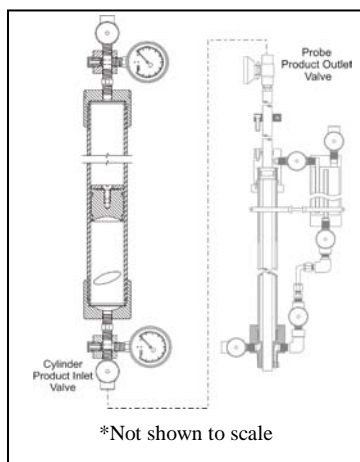

Figure 3
- 2.4.1 After pre-charging the cylinder above pipeline pressure (*see Section 2.2*), connect the product inlet end of the cylinder to the probe outlet port (see Figure 3).
- 2.5.1 Pre-charge the sample cylinder (see Section 2.2), and connect the product inlet end of the cylinder to the sampler outlet port (see Figure 3).
- 2.5.2 Open the sample outlet valve (see Figure 3).